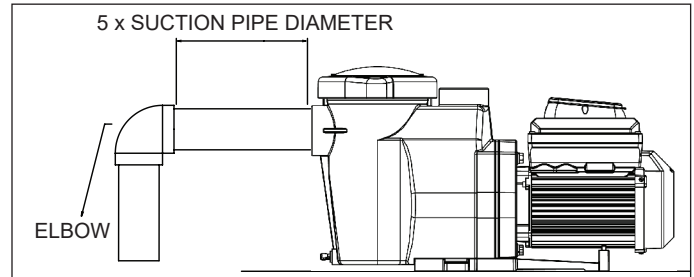

Figure 2
4. For most installations, always install a valve on both the pump suction and return lines so that the pump can be isolated during routine maintenance. However, it is also recommended that a valve, elbow or tee installed in the suction line should be no closer to the front of the pump than five (5) times the suction line diameter. (See Figure 2.